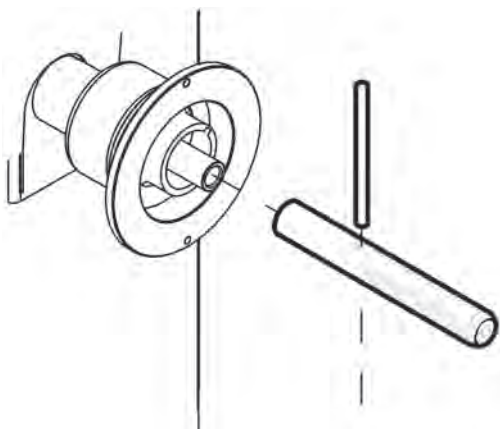

Figure 6
A. Mount the threaded shaft onto the arbor of the balancer. Tighten firmly using supplied rod. (Figure 6).